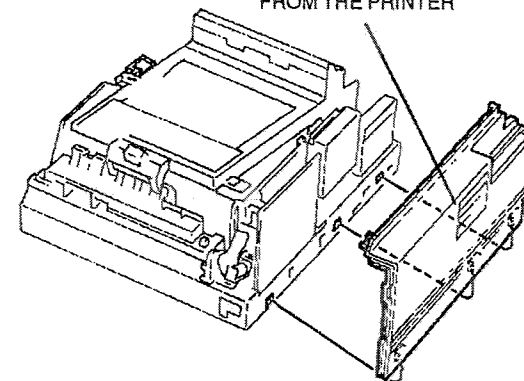

Figure 1. Right side cover removal
4. (Figure 1) Remove the right side cover.